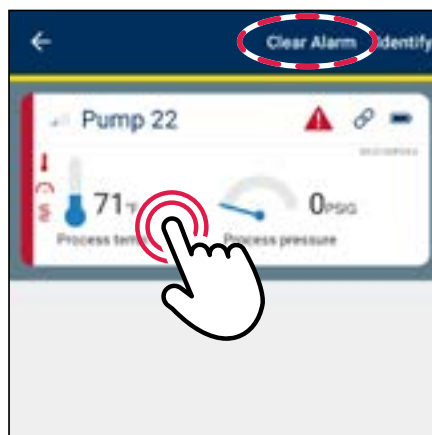

Figure 26
- For **Android**: **press and hold** the desired sensor (see figure 26). The identify/clear alarm option will appear.